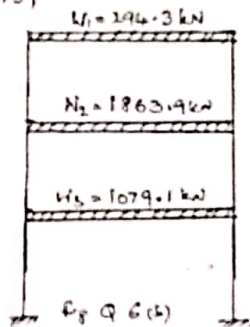

Fig.Q.6(b)
- b. For the residential, RCC (special moment resisting frame, SMRF) building shown in Fig Q.6(b). Compute the seismic forces by dynamic analysis (response spectrum) procedure. The building is founded on hard soil (rock) and situated in zone IV. Given: the free vibration results. The frequencies  $W_1 = 10.035$  rad/s,  $W_2 = 40.347$  rad/s and  $W_3 = 64.148$  rad/s. Modes:  $\{\phi\}_1 = \{1.00 \ 0.970 \ 0.760\}$